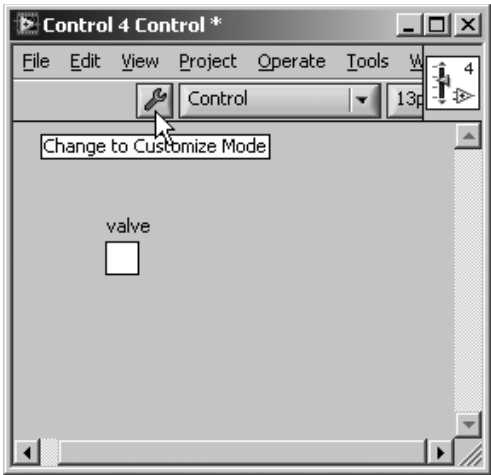

Figure 17.11
- 4. In Edit mode, the Control window works just like the front panel. You can pop up on the control to manipulate its settings—things like scale, precision, etc. (see Figure 17.11).